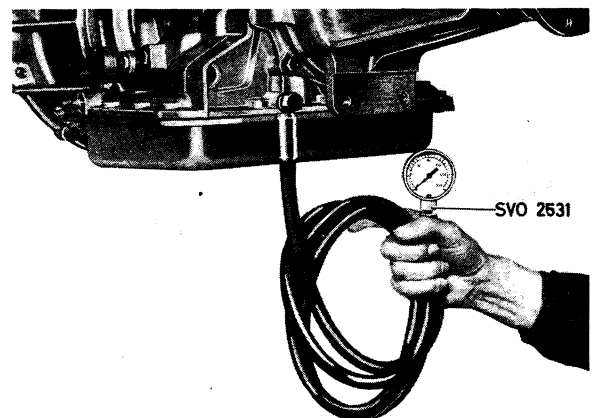

Fig. 4-64. Connecting manometer
1. Connect a tachometer to the engine and manometer to the transmission as shown in Fig. 4-64.